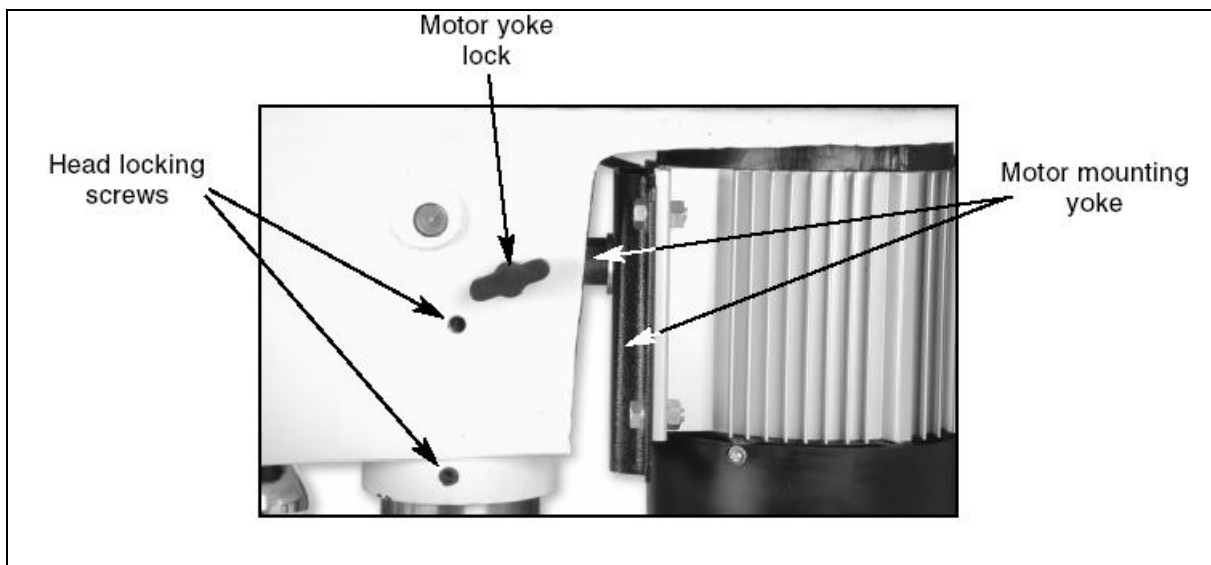

Figure 7
3. Tighten the two head locking screws shown in **Figure 7** to secure headstock to the column.